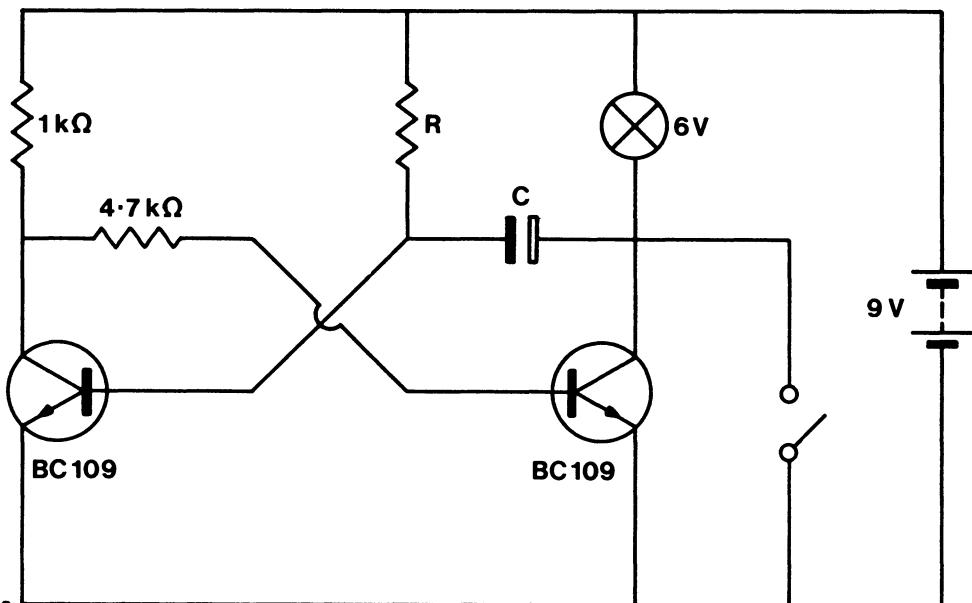
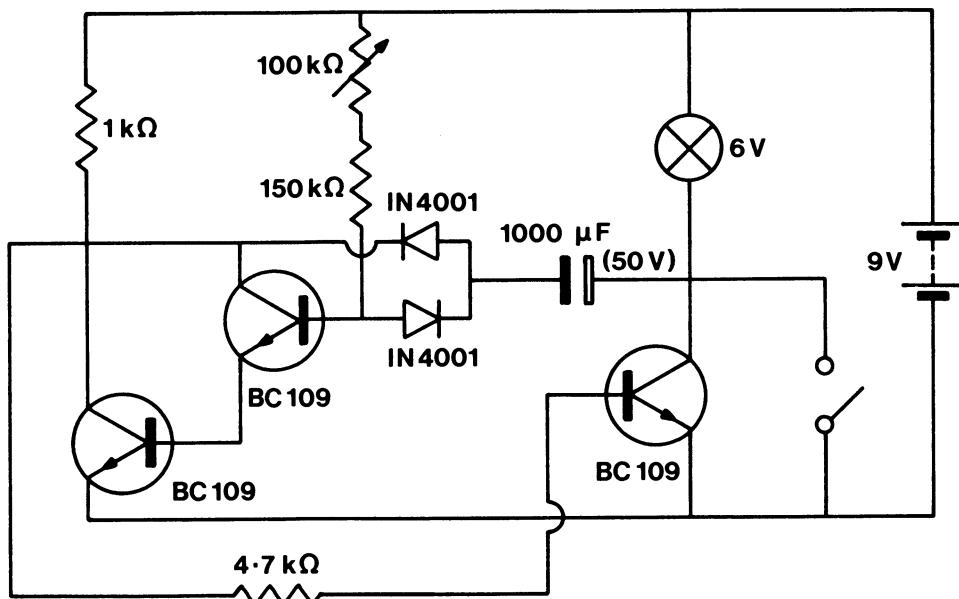

FIG. 1.32a
FIG. 1.32b
1. The circuit in Fig. 1.32a above will be recognized as being similar in arrangement to the bistable circuit introduced in Circuit 12. However, one of the base resistors in the bistable circuit has now been replaced by a capacitor, C, and another resistor, R, added. Build this circuit and arrange it so that values of R of  $10\text{ k}\Omega$  and  $33\text{ k}\Omega$  can be switched in at will, similarly values of C of  $47\text{ }\mu\text{F}$  (25 V) and  $100\text{ }\mu\text{F}$  (25 V) can be selected. Now see what happens as the switch, S, is momentarily closed. It should be seen that even though the switch is closed for a very short time the bulb stays ON for several seconds after this, and that the length of time the bulb stays on is determined by the values of R and C used.
2. The monostable can be used as a timer. That is, by choosing the correct values for  $R$  and  $C$  the bulb can be made to stay on for any length of time required. By making  $R$  and  $C$  very large the bulb can be made to stay on for several minutes. Making  $R$  and  $C$  very large can cause certain problems, however. First, if  $R$  is too large, not enough current will be able to flow into the first transistor base to switch this on. Large values of  $C$  are also very bulky and expensive. The circuit in Fig. 1.32b is a modification of that in Fig. 1.32a which permits much larger values of  $R$  to be used. Notice that the first transistor has now been replaced by two transistors. This combination is known as a *Darlington pair*, and allows very small base currents to switch the transistors. The diodes are for protection of the transistors in the Darlington pair during the charging of the capacitor. Build the circuit and use a combination of a  $150\text{ k}\Omega$  fixed resistor and a  $100\text{ k}\Omega$  variable for  $R$ . The  $100\text{ k}\Omega$  may be increased to about  $330\text{ k}\Omega$  if desired.